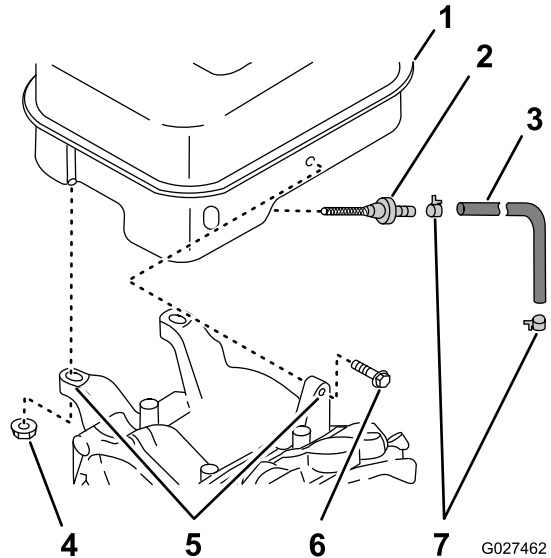
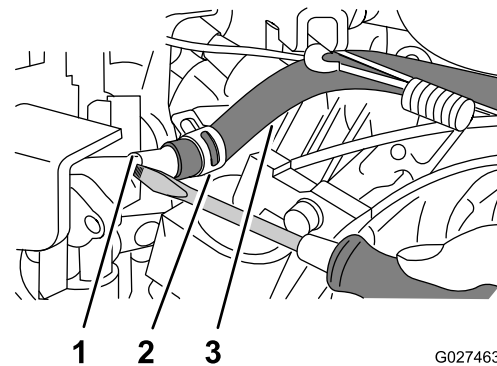
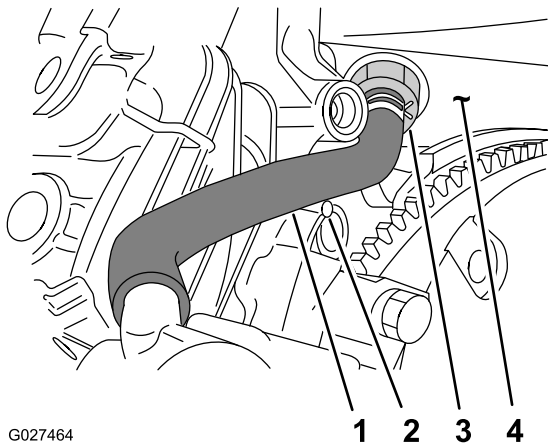

Figure 71
Figure 72
Figure 73
5. Remove the 2 bolts 6 x 25 mm and 2 nuts 8 mm that secure the fuel tank to the tank supports (Figure 71).
6. Loosen the hose clamp and disconnect fuel hose from the fitting on the carburetor (Figure 72).
7. Remove the fuel tank from the crankcase of the engine (Figure 71 and Figure 73).
4. Secure the hose to the carburetor fitting with the clamp (Figure 72).
5. Assemble the tank to the tank supports on the engine with the 2 bolts 6 x 25 mm and 2 nuts 8 mm (Figure 71).
1. Loosen the hose clamp and disconnect the fuel hose from the fitting at the fuel strainer (Figure 71).
2. Rotate the fuel strainer counterclockwise and remove it from the fuel tank (Figure 71).
4. Thread the fuel strainer into the fuel tank (Figure 71).
6. Align the fuel hose that you removed in step 1 over the fitting on the fuel strainer (Figure 71 and Figure 73).
7. Secure the hose to the strainer fitting with the clamp (Figure 71 and Figure 73).
2. Align the fuel tank to the tank supports on the engine (Figure 71).
3. Align the fuel hose that you removed in step 6 of Removing the Fuel Tank \(page 57\) to the fitting on the carburetor (Figure 72 and Figure 73).